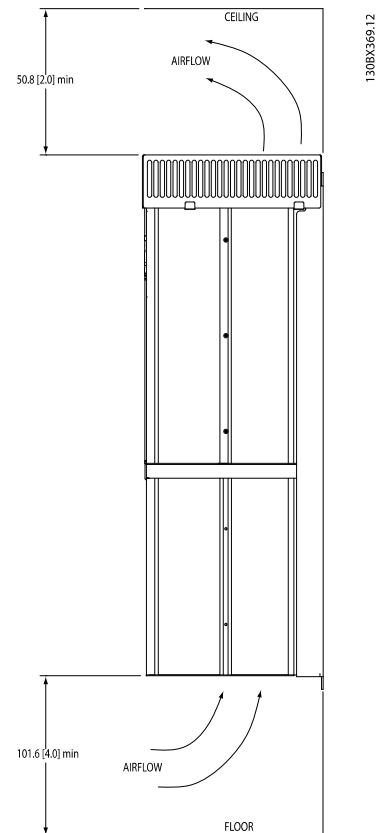

Figure 3.3 Cooling Airflow
- Top and bottom clearance is required for cooling (see Figure 3.3). Generally, 2 to 10 inches (50 to 250mm) minimum clearance is required, depending upon the hp (kW) of the unit. See the dimensional drawings in 8 Appendix for specific requirements.